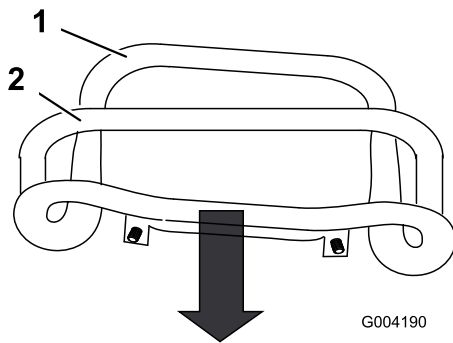

Figure 48
3. Pull straight back on the traction control so the front of the control contacts the reference bar (Figure 48).